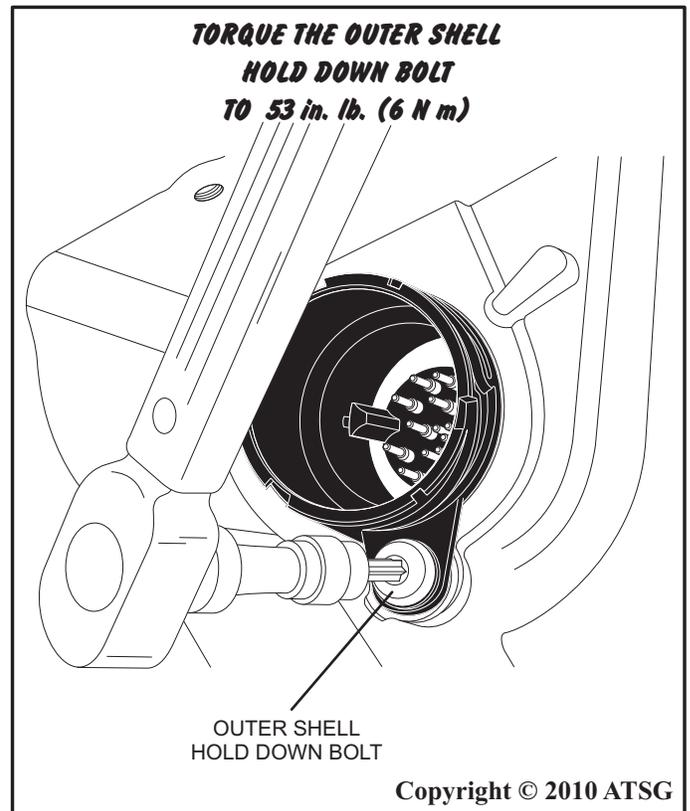

Figure 36
85. Install the outer shell hold down bolt and torque to 53 in. lb. (6 N m) as shown in figure 36.